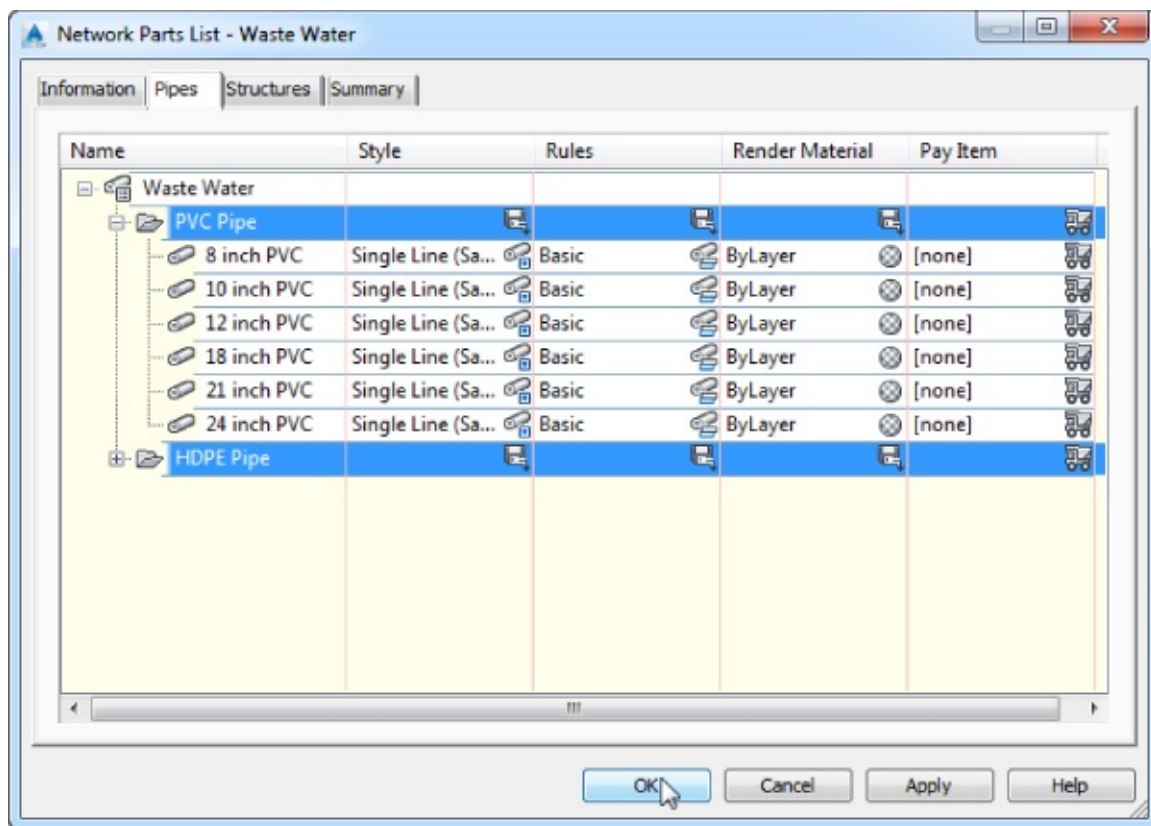

Figure 13.1 A waste water parts list
- Waste water (gravity), as shown in Figure 13.1